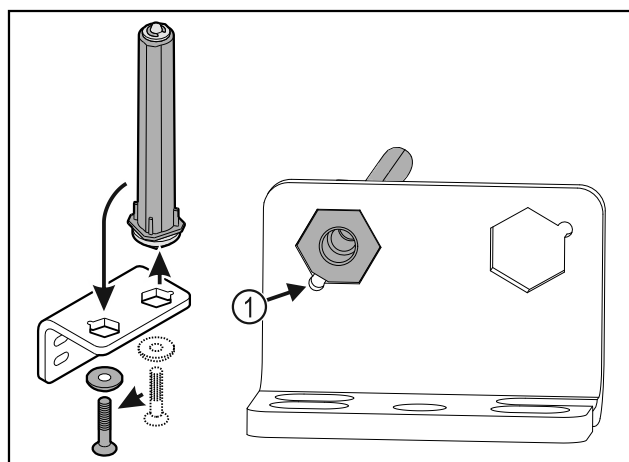

Fig. 19
- Make sure the pin chamfer Fig. 19 (1) faces the round hole when you put it in.